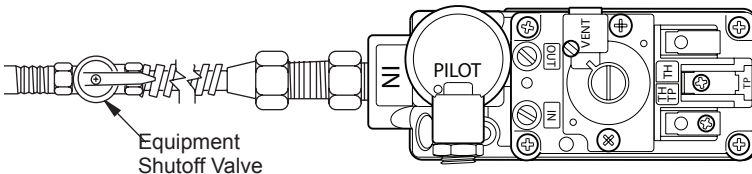

Figure 33 - Turning Equipment Shutoff Valve to the OFF Position
5. Turn equipment shutoff valve clockwise  to the OFF position (see Figure 33). Do not force.
6. Wait five (5) minutes to clear out any gas. Then smell for gas, including near the floor. If you smell gas, STOP! Follow "B" in the safety information page 22. If you don't smell gas, go to the next step.
- Turn the adjustment screw marked PILOT clockwise to decrease or counterclockwise to increase the flame to proper size (see Figure 33, page 23). Do not remove the adjustment screw.